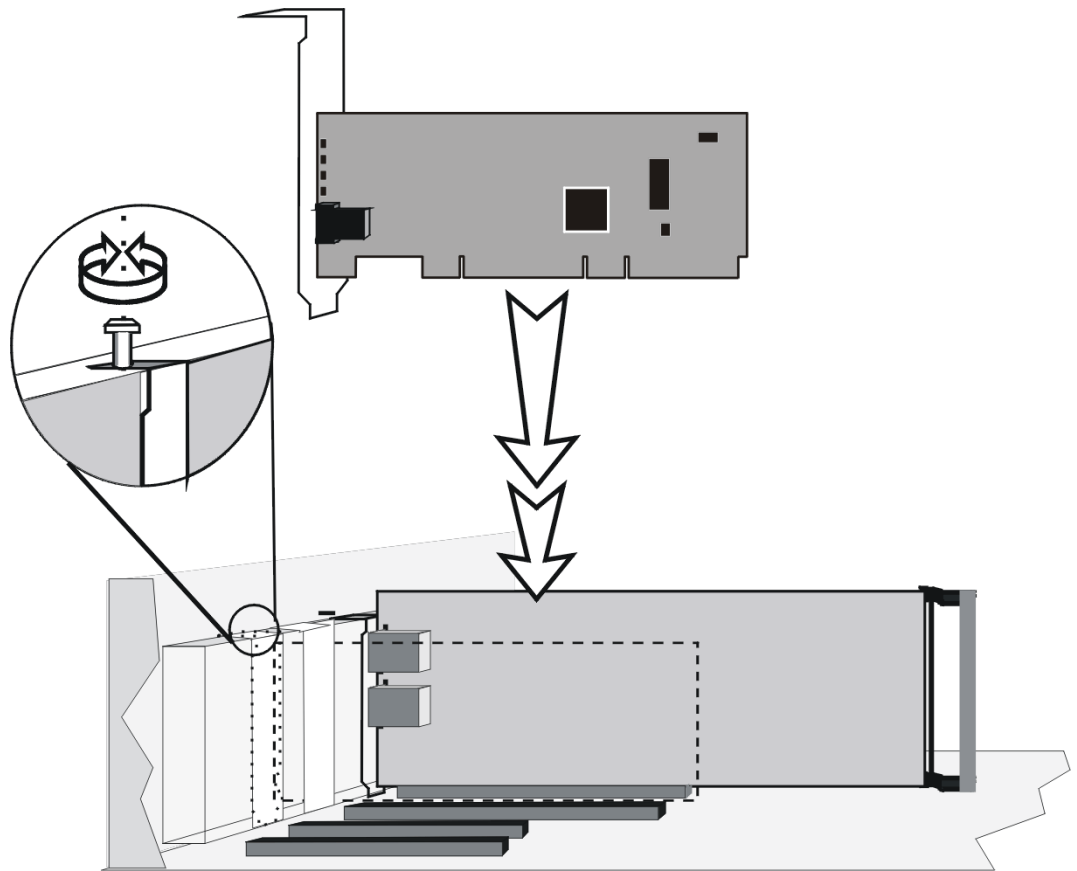

Figure 1. Insertion of the adapter into the computer
8. Insert the network adapter into the PCI bus slot as described in your computer manual (also see figure 1 "Insertion of the adapter into the computer").